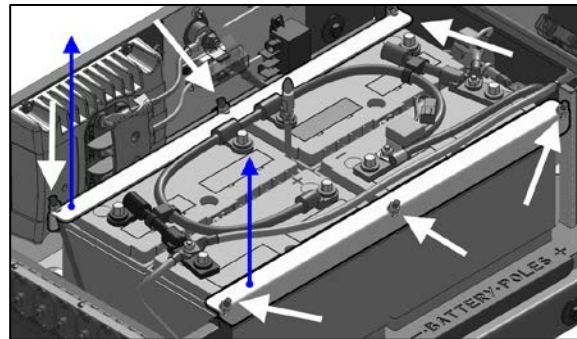

Figure 14: BATTERY HOLDING BRACKET REMOVAL
- 3.4 Unscrew battery holding bracket nuts (6) and remove clamps (2) (Figure 14).